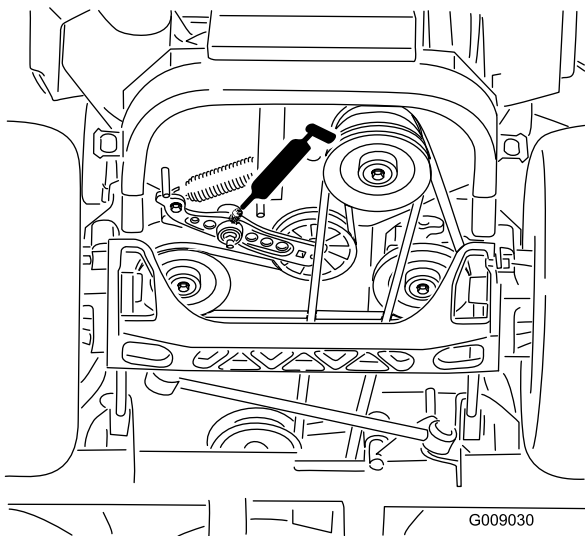

Figure 41
5. Grease the drive belt idler arm (Figure 41).